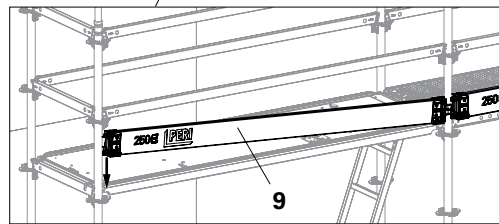

Fig. A1.06a
5. Attach Toeboard UPF (9) on the outside to the Standards. (Fig. A1.06a)